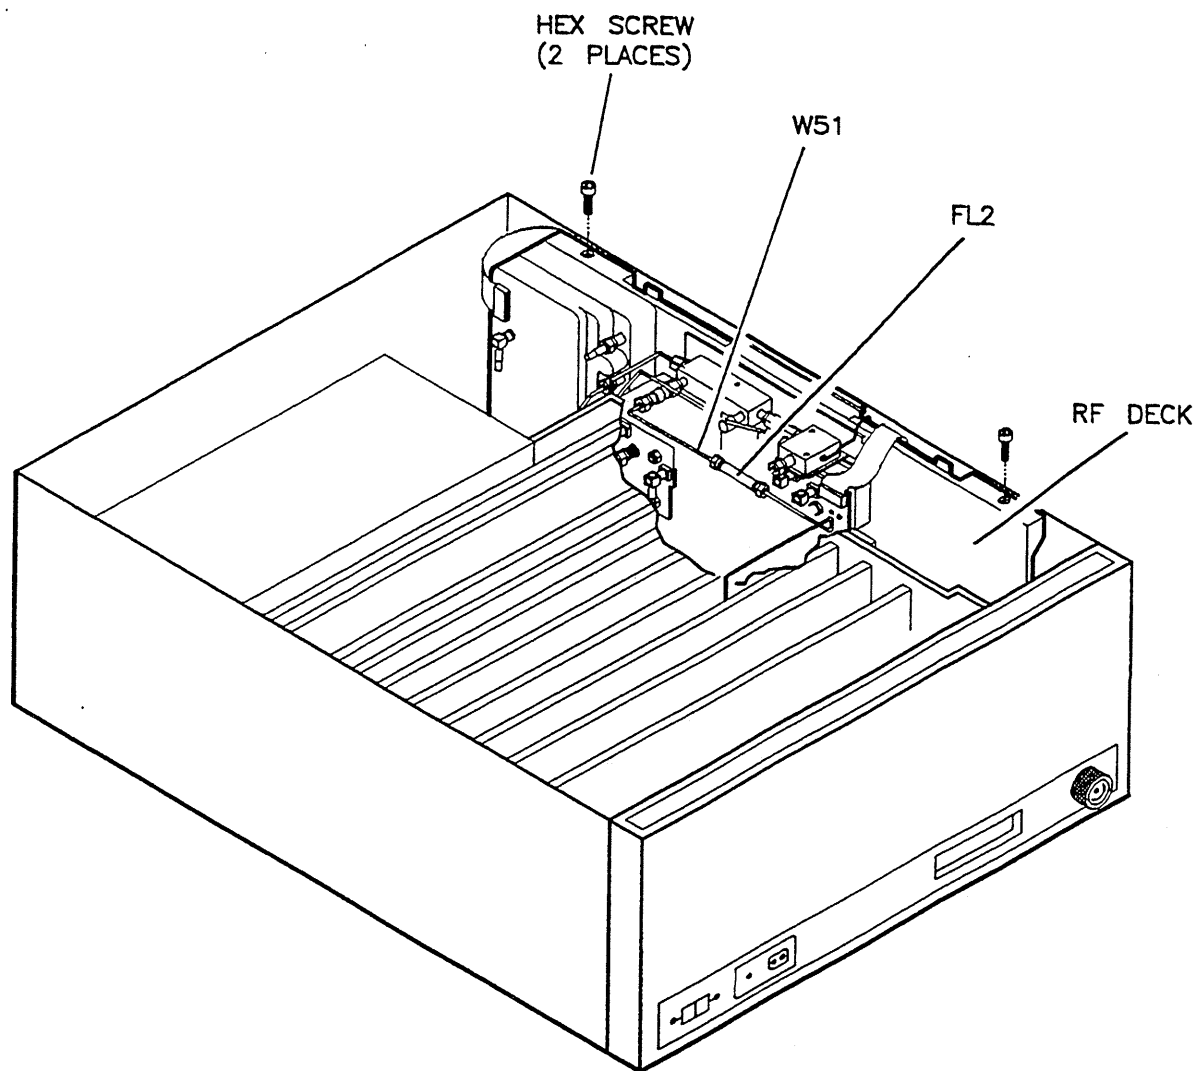

Figure 7-33. W51 RF Cable Location
5. Disconnect cable W51 (see Figure 7-33) from the low pass filter FL2 (you may need to loosen the other end of W51 also).